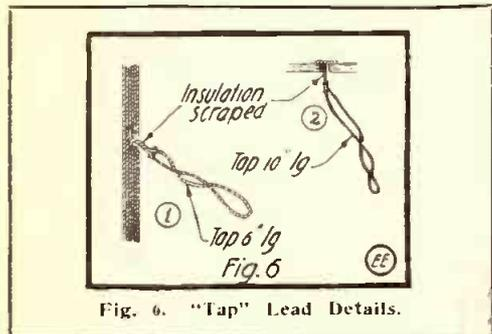

Fig. 6. "Tap" Lead Details.
The taps are made in the following order: beginning of winding, end of first turn, end of second turn, end of third, 7, 9, 12, 16, 20, 24, 28, 32, 36, 40, 44, 48, 52, 56, 60, 64, 68, 72, 76, 80, 84, 88, 92, 96, 100, 104, 108, 112, 116, 120. (1) Fig. 6 shows the method of making taps. The taps should be made in a straight line down the coil; however, the first ones should be staggered a little, so the bare wires will not come in contact with each other. Be careful in scraping the insulation where the taps are twisted (see Fig. 6) not to cut the wire. By scraping the wire in this way losses from taps are minimized. Leave a good 6 inches for connections to the switch. It is well to run a little sealing wax over the wire where the taps are made. When the winding is complete fasten the end through two holes as before, leaving enough for connection. Next, cut up four strips of thin cloth, 4 inches by  $\frac{1}{2}$  inch, and soak them in fairly thick shellac. Then lay them lengthwise on the winding, 90 degrees apart. Cut off the ends of the cloth even with the ends of the tube; do not turn them under. This
26 double silk-covered wire is required for the secondary coil. The taps (see (2) Fig. 6) are made differently. Instead of coming from the outside, they must come from the inside of the core. Beginning 1/16 of an inch from the end of the secondary core, mark off 3/10 of an inch 10 times. At these points make holes just large
At Fig. 6 is depicted a method which was tried out by Major G. O. Squier, of the U. S. Signal Corps, some years ago quite successfully for short range work. As observed, two large Iron Nails are driven into a Tree of fair height; one nail is driven in the trunk of the tree near the ground, while the second nail is driven in the trunk just below the foliage. A tuning coil may be used in series with the phone and detector, as the diagram shows, although the coil is not absolutely necessary.